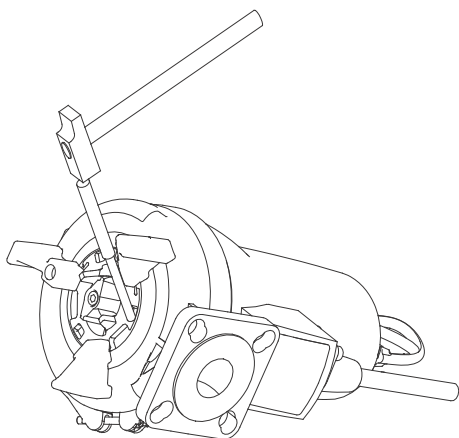

Fig. 8 Dismantling the grinder ring
4. Loosen the grinder ring (44) by knocking it clockwise with a punch (F). See fig. 8.